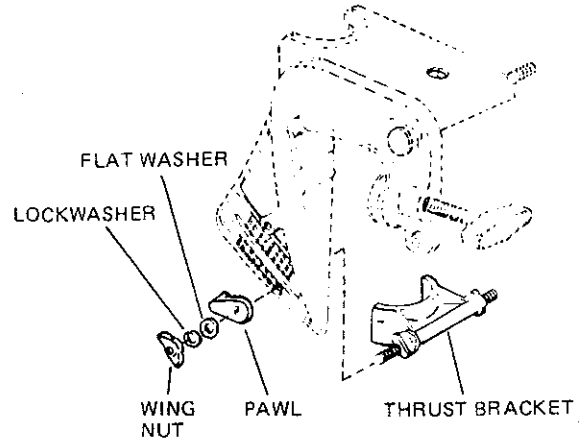

Figure 46. Install thrust bracket and pawl.
E. Attach the thrust bracket assembly to the right hand mounting bracket and assemble the pawl, flat washer, lock washer and wing nut to the thrust bracket stud (Figure 46).